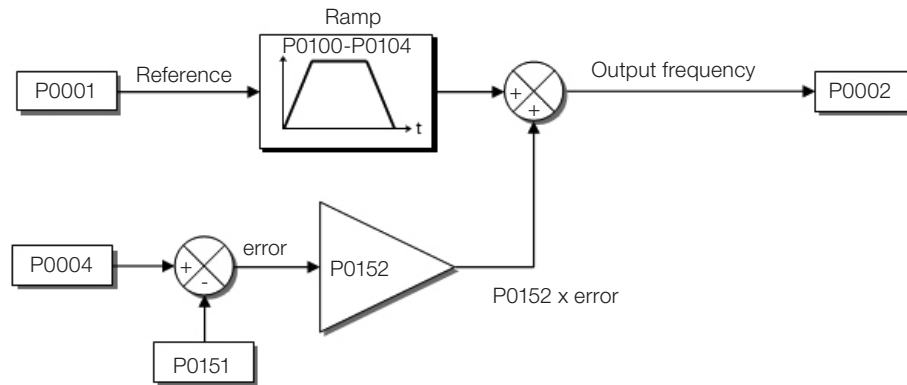
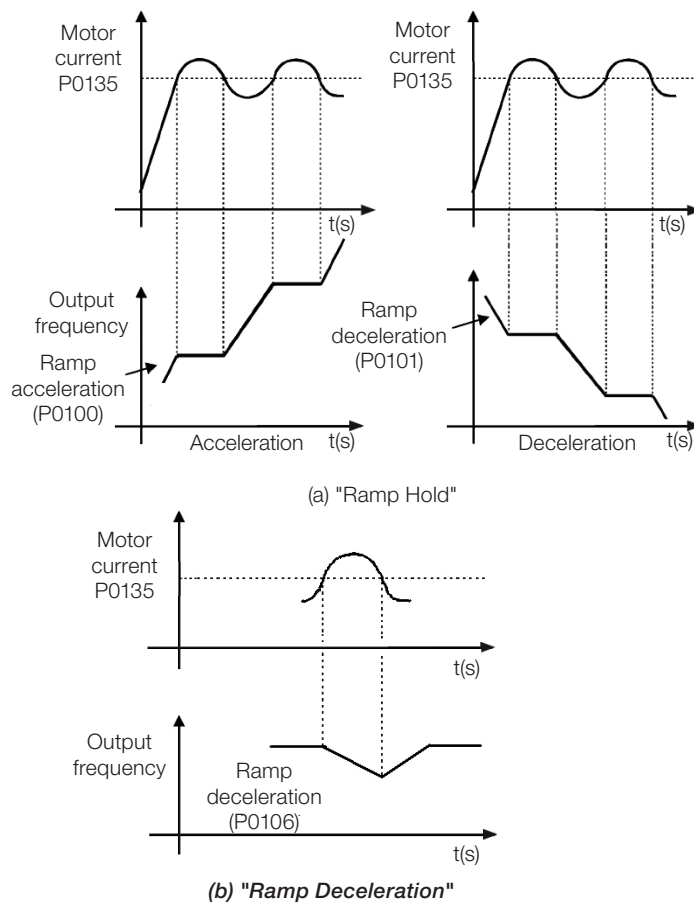

Figure 9.8: Block diagram of DC Link voltage limitation – Accelerate Ramp
Figure 9.10: (a) and (b) Actuation modes of Current Limitation via P0135
- Actuation: the DC Link voltage is measured (P0004) and compared to the value set in P0151; the difference between those signals (error) is multiplied by the proportional gain (P0152); the result is then added to the ramp output, as per Figure 9.8 on page 9-13 and Figure 9.10 on page 9-14.
- Actuation: if the motor current exceeds the value set in P0135 during acceleration or deceleration, the speed will not be incremented (acceleration) or decremented (deceleration). When the motor current reaches a value below P0135, the motor accelerates or decelerates again. Refer to Figure 9.10 on page 9-14.
- Actuation: if the motor current exceeds the value set in P0135, a null value is forced for the speed ramp input forcing the motor deceleration. When the motor current reaches a value below P0135, the motor accelerates again. Look at Figure 9.10 on page 9-14.
Current level to activate the current limitation for the Ramp Hold and Decelerate Ramp modes, as per Figure 9.10 on page 9-14, respectively.